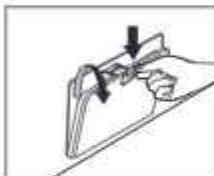

Fig.13
- Open the service flap by using a finger, (bottom right corner) (Fig.13)